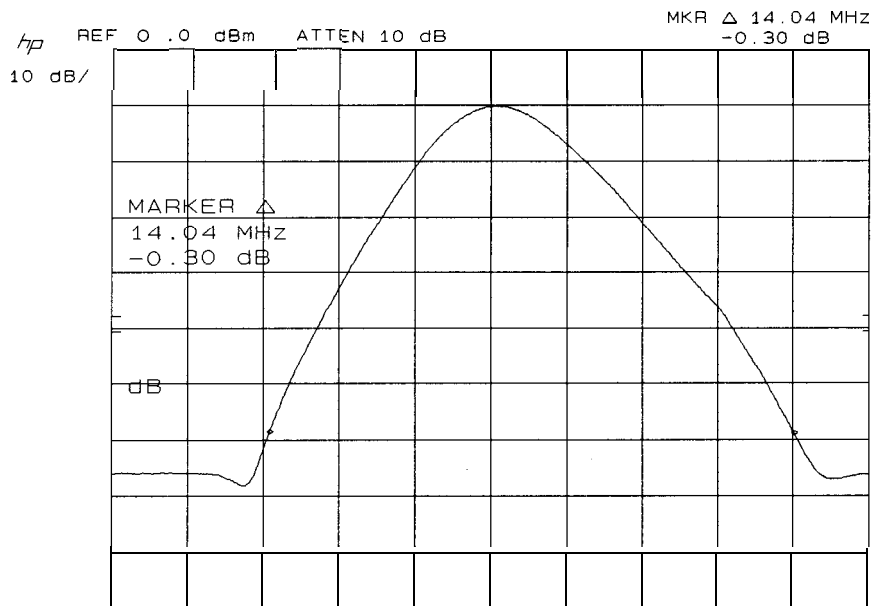

Figure 4-4. 60 dB Bandwidth Measurement
4. Press MARKER **NORMAL** and position marker at peak of signal trace. Press MARKER **Δ** and position movable marker 60 dB down from the stationary marker on the positive-going edge of the signal trace (the MARKER A amplitude readout should be -60.00 dB f1.00 dB). It may be necessary to press SWEEP **CONT** and adjust **CENTER FREQUENCY** so that both 60 dB points are displayed. (See Figure 4-4.)
6. Read the 60 dB bandwidth for the 3 MHz resolution bandwidth setting from the MARKER A frequency readout (Figure 4-4) and record the value in Table 4-4.